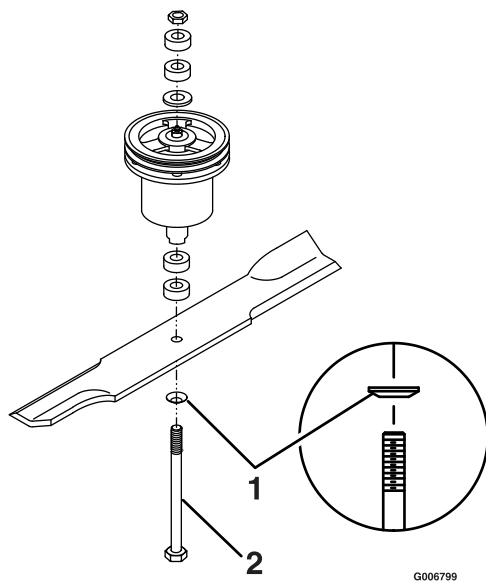

Figure 11
10. Torque bolt to 75–80 ft-lb (102–109 N-m) (see Figure 11).